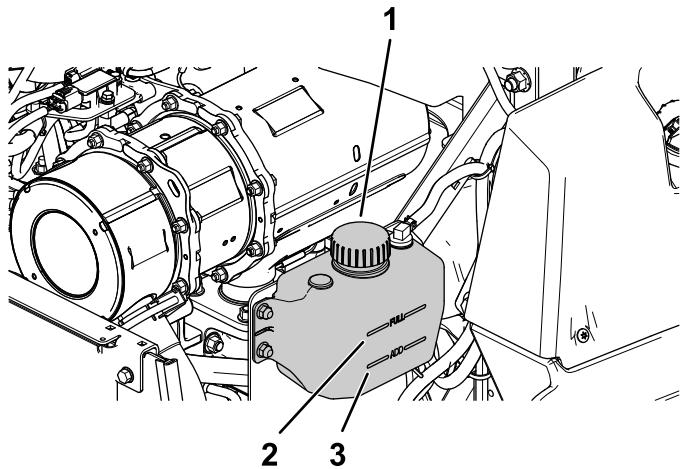

Figure 57
5. If coolant level is low, remove the expansion-tank cap, and add the specified coolant (Figure 57).
4. Check the level of the coolant in the expansion tank (Figure 57).